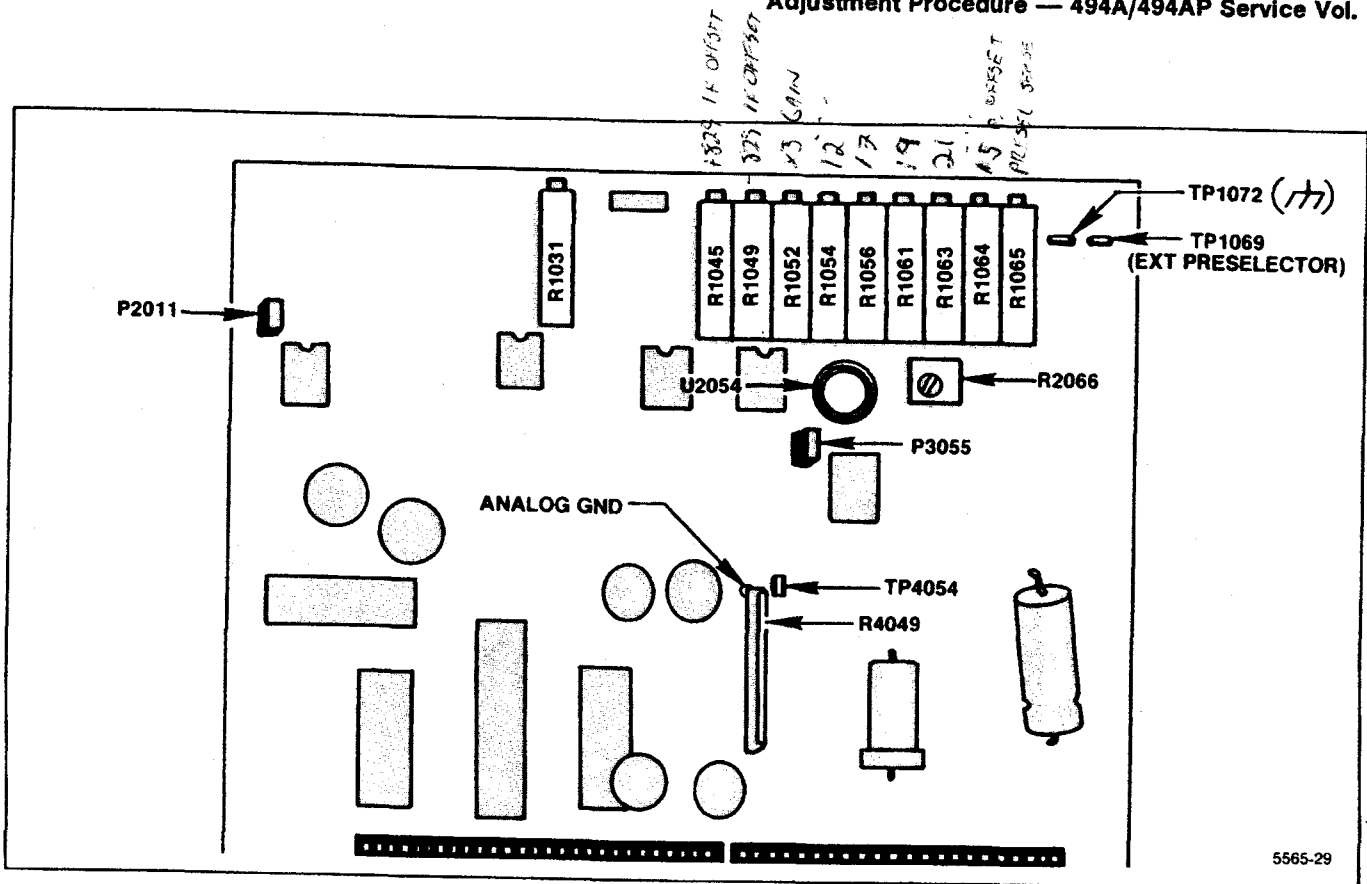

Figure 5-22. Preselector Driver test point and adjustment locations.
e. Set the CENTER FREQUENCY to center the 2.1 GHz marker. Center the Input Offset adjustment R1031 (Figure 5-22), then center the 2.1 GHz marker with the CENTER FREQUENCY control. Ground TP1069 with a jumper strap.
g. Peak the 2.1 GHz signal with the -829 MHz IF Offset R1049 (Figure 5-22).
n. Increase FREQUENCY to the 12 GHz marker, then peak the 12 GHz point with Shaper #1 R1054 adjustment (Figure 5-22).
u. Adjust -829 MHz IF Offset R1049 (Figure 5-22) to peak the 3.5 GHz response.
x. Tune the 19 GHz marker to center screen then peak the 19 GHz signal with Shaper #3 R1061 adjustment (Figure 5-22).